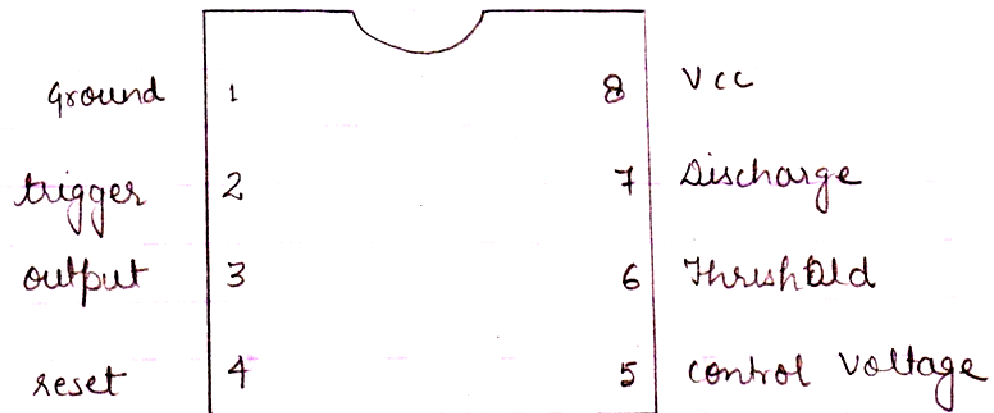
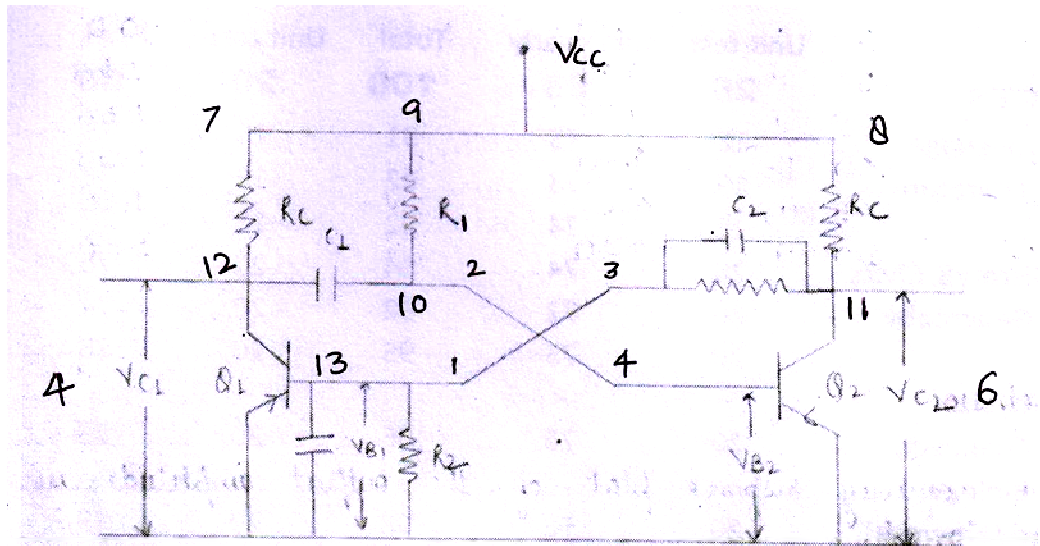
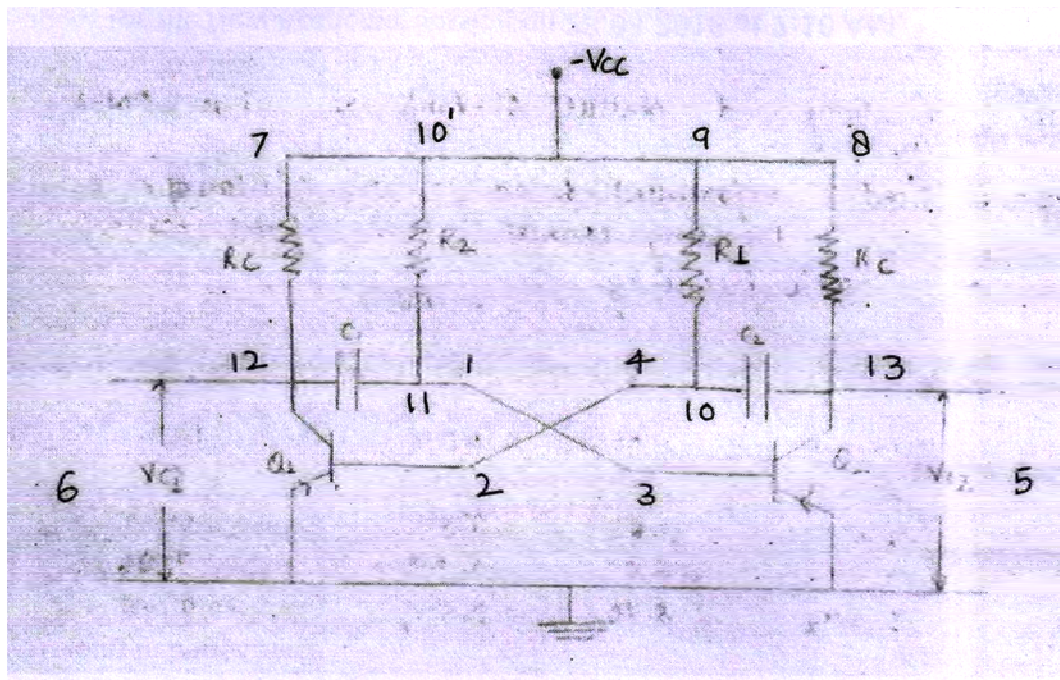

Figure 12.1: Pin connection of 555 Timer.
Figure 12.3: Monostable Multivibrator.
Figure 12.4: For Long duration Timer.
IC timer 555 is a very accurate reliable and simple device which may be used in a variety of applications like precision timing, pulse generation, sequential timing, time delay generation pulse width modulation, pulse position modulation and linear ramp generation. Some of the features which make this device very useful are timing from  $\mu$  sec through hours, output and supply TTL compatible and temperature stability better than  $0.00590 \text{ per}^\circ\text{C}$ . The Pin diagram of 555 timer is given in fig. 12.1.
Figure 12.3 shows the schematic diagram for monostable operation using 555. Here an external trigger source is required. This is however, built in present experiment set up referring to lay out diagram in fig. 12.1. The following connections should be made.
2. Connect  $R_1$  (between 9 and 10),  $R_c$  (between 1 and 12 and 8 to 11), and  $C_1$  and  $C_2$  as indicate in the figure 12.3 .
The basic circuit for this case is shown in figure 12.4. Following connections are necessary in this circuit or lay out diagram of experiment set up as shown in figure 12.1.